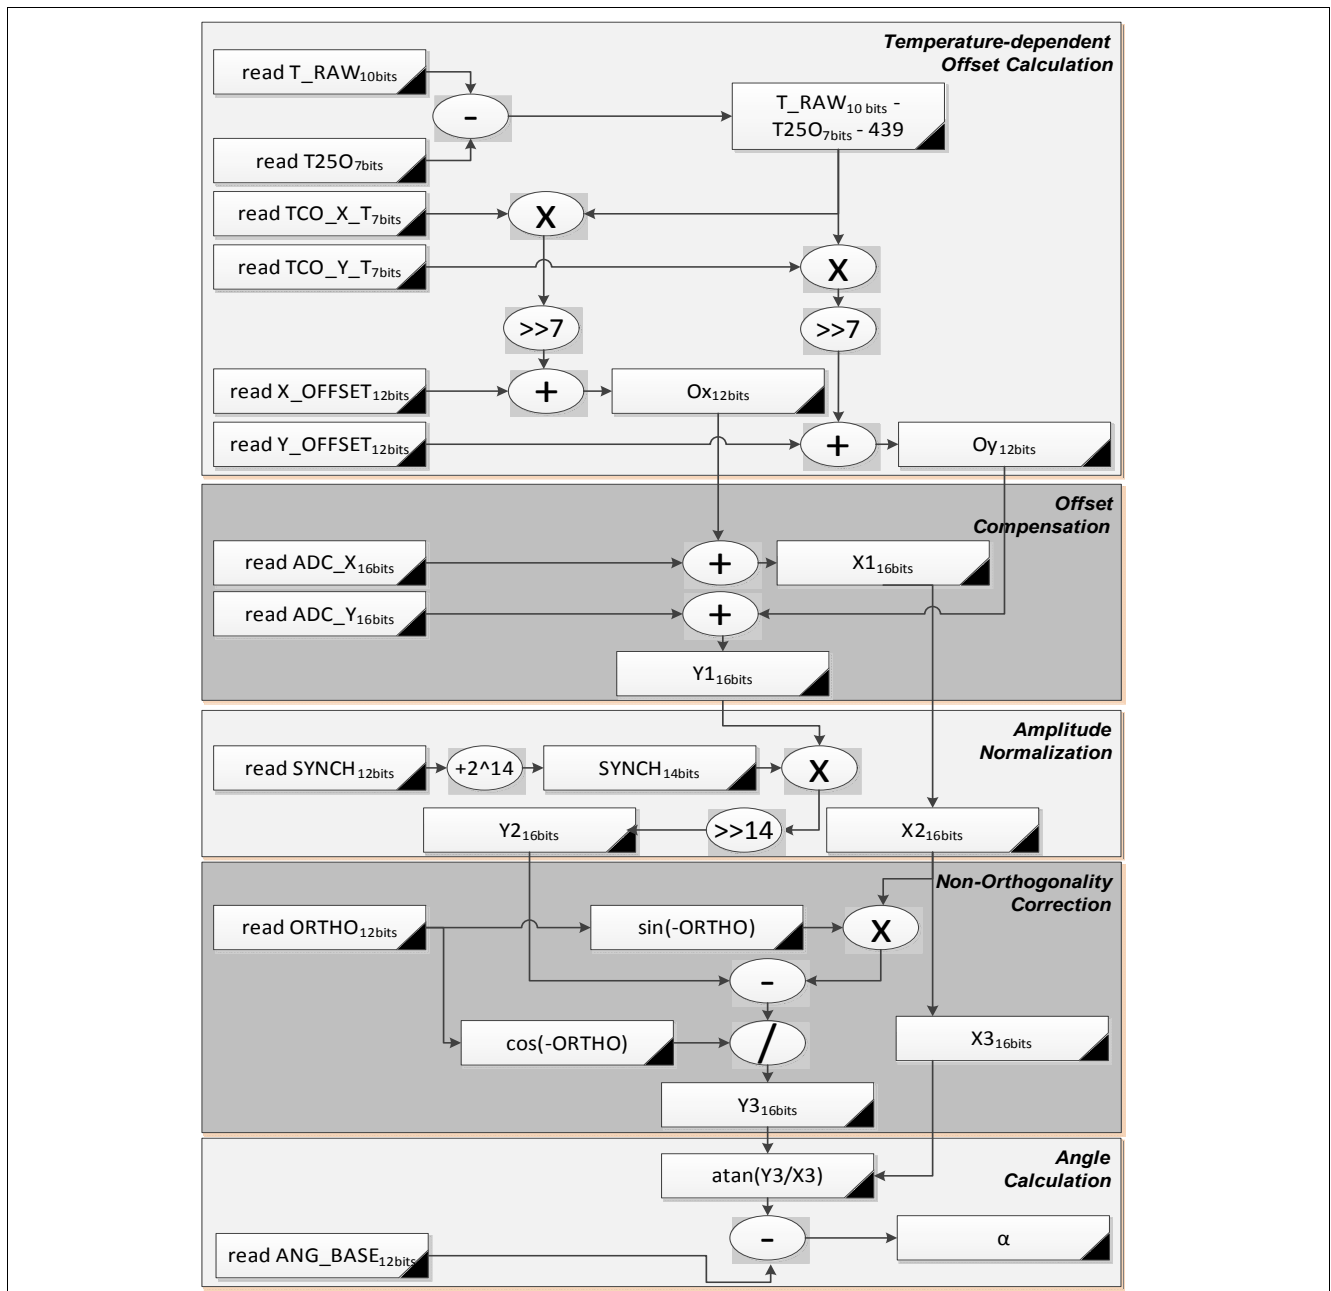

Figure 5-10 Flow-Chart of Angle Calculation from the X-row and Y-row values
**Figure 5-10** shows the flow chart of angle calculation from the X-raw and Y-raw values as described above.